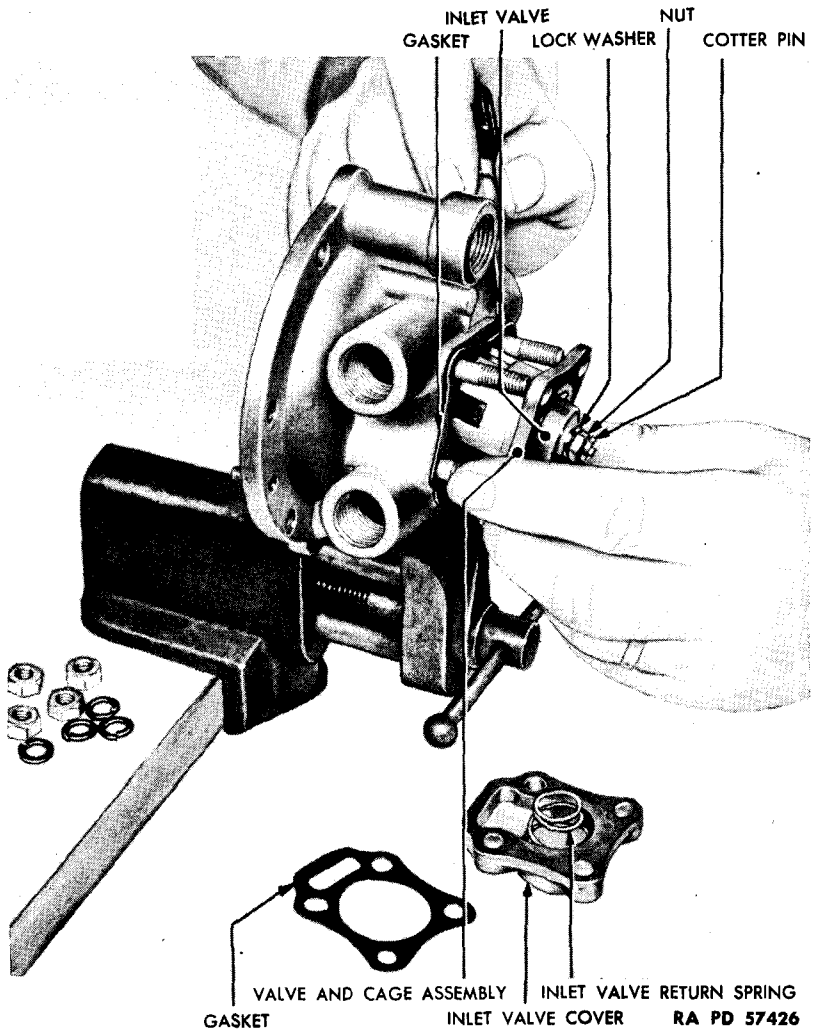

Figure 9 – Removing Valve and Cage Assembly
c. Remove Inlet Valve Cage Assembly (fig. 9). Remove four nuts and four lock washers from four studs holding inlet valve cover to lower valve body. Lift off inlet valve cover and gasket. Lift out inlet valve return spring. Lift out inlet valve cage and valve assembly. Remove gasket.
d. Assembly. Place a light coat of type A sealing compound around shoulder of valve body plunger. With plunger nose up, place one diaphragm plate against plunger shoulder (bevel edge of plate must be up). Place diaphragm over check valve body seat with the word "TOP" embossed on diaphragm, down. Place diaphragm plate over check valve body with the beveled edge against diaphragm. Place a light coat of type A sealing compound on plunger threads and face of nut. Install nut and tighten, using two wrenches (fig. 9). Lock the nut to check valve seat by placing two sharp punch marks
a. **Assemble Valve and Cage Assemblies.** *NOTE: Place a light film of water pump grease over all friction surfaces. Do not allow any grease to contact any of the rubber assemblies (figs. 9 and 11).* Place lower valve body in vise. Place gasket over the four studs. Place inlet valve and cage assembly over studs and into cavity of valve body. Place inlet valve return spring over nut at end of discharge valve stem. *NOTE: Inlet valve return spring is cone-shaped; make certain the small end is installed over nut.* Place gasket over studs. Place inlet valve cover over studs. Secure cover to inlet valve cage, using four nuts and four lock washers.